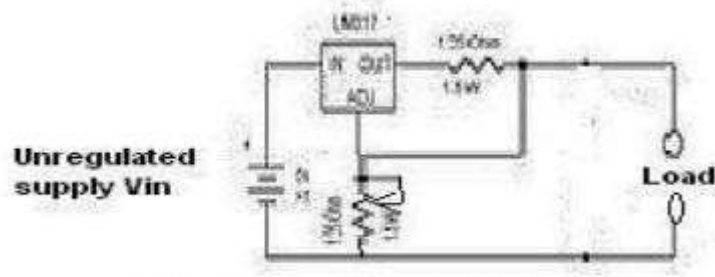

Figure 5.5.1 LM317 Regulator circuit Diagram
1. LM317 series adjustable 3 terminal positive voltage regulator, the three terminals are V_{in} , V_{out} & adjustment (ADJ). Figure 5.5.1 shows the LM317 Regulator circuit.
7. The output voltage V_o is, $V_o = R_1 I_1 + (I_1 + I_{adj}) R_2$ ----- (1)